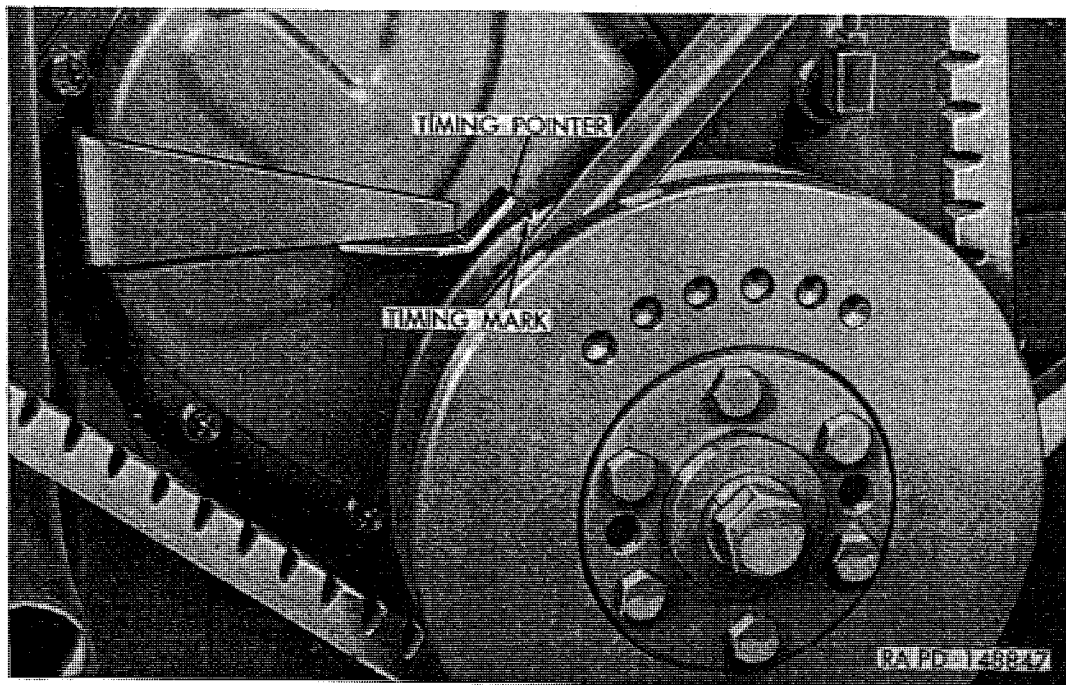
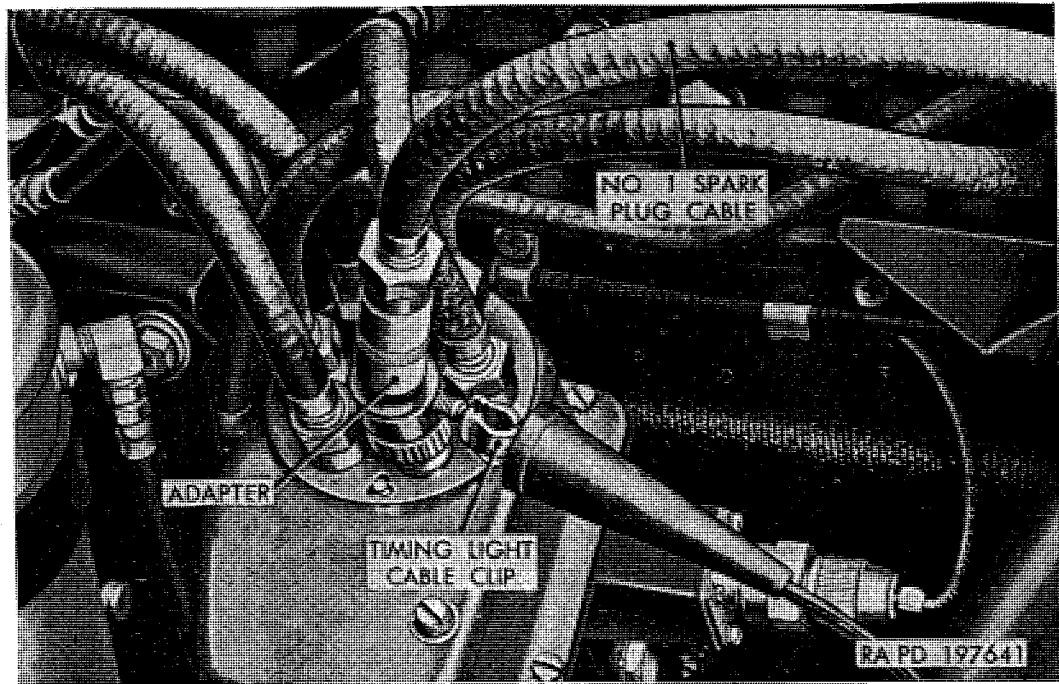
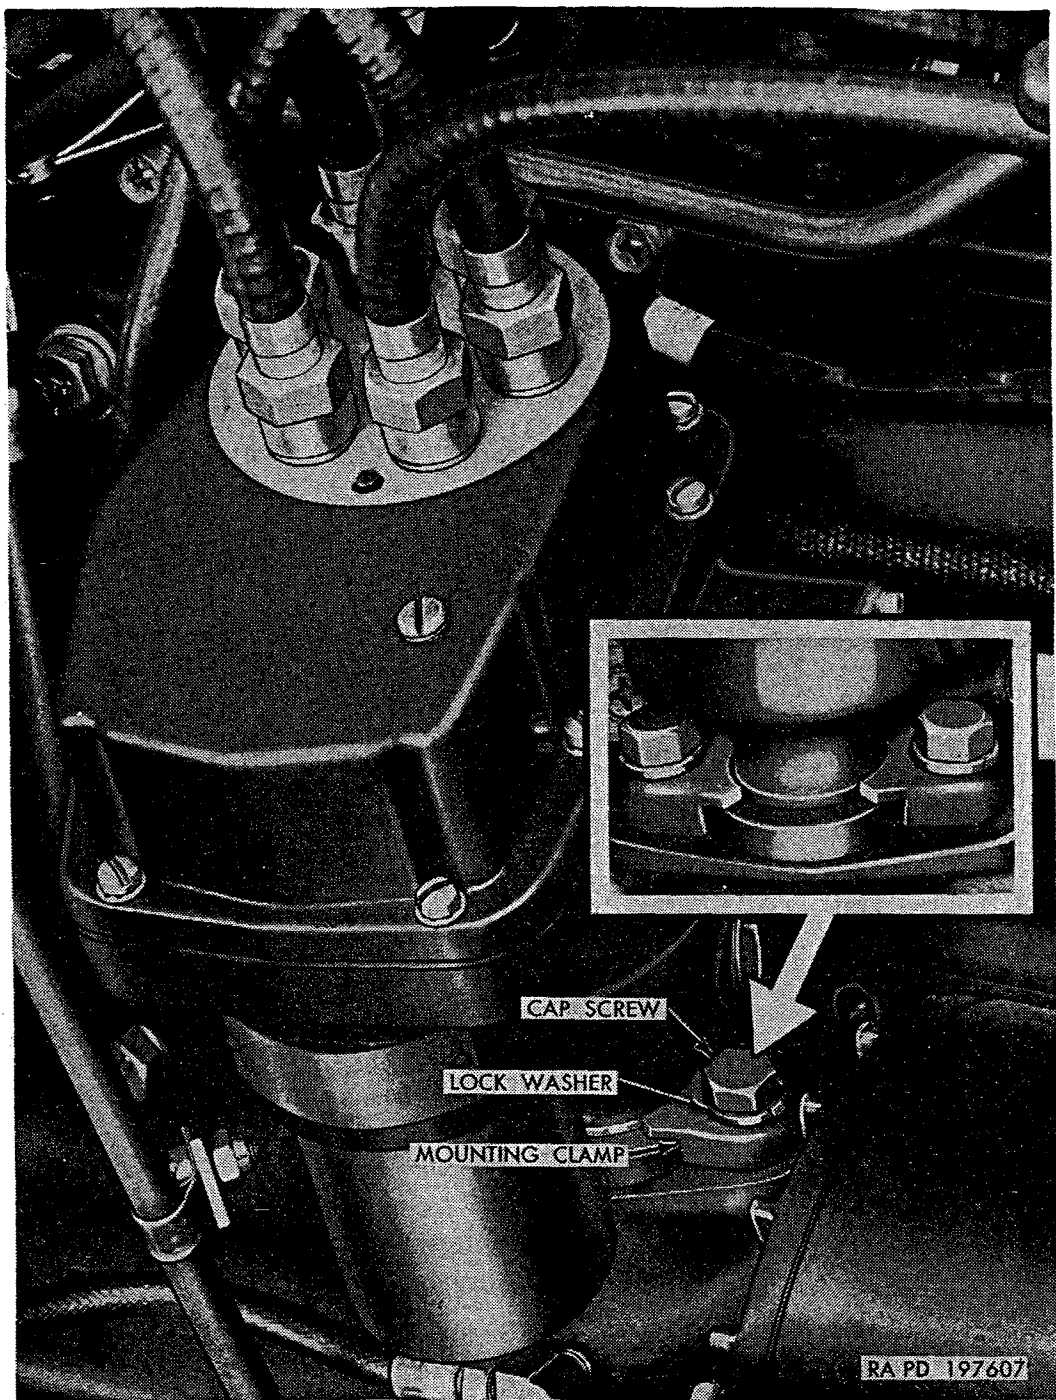
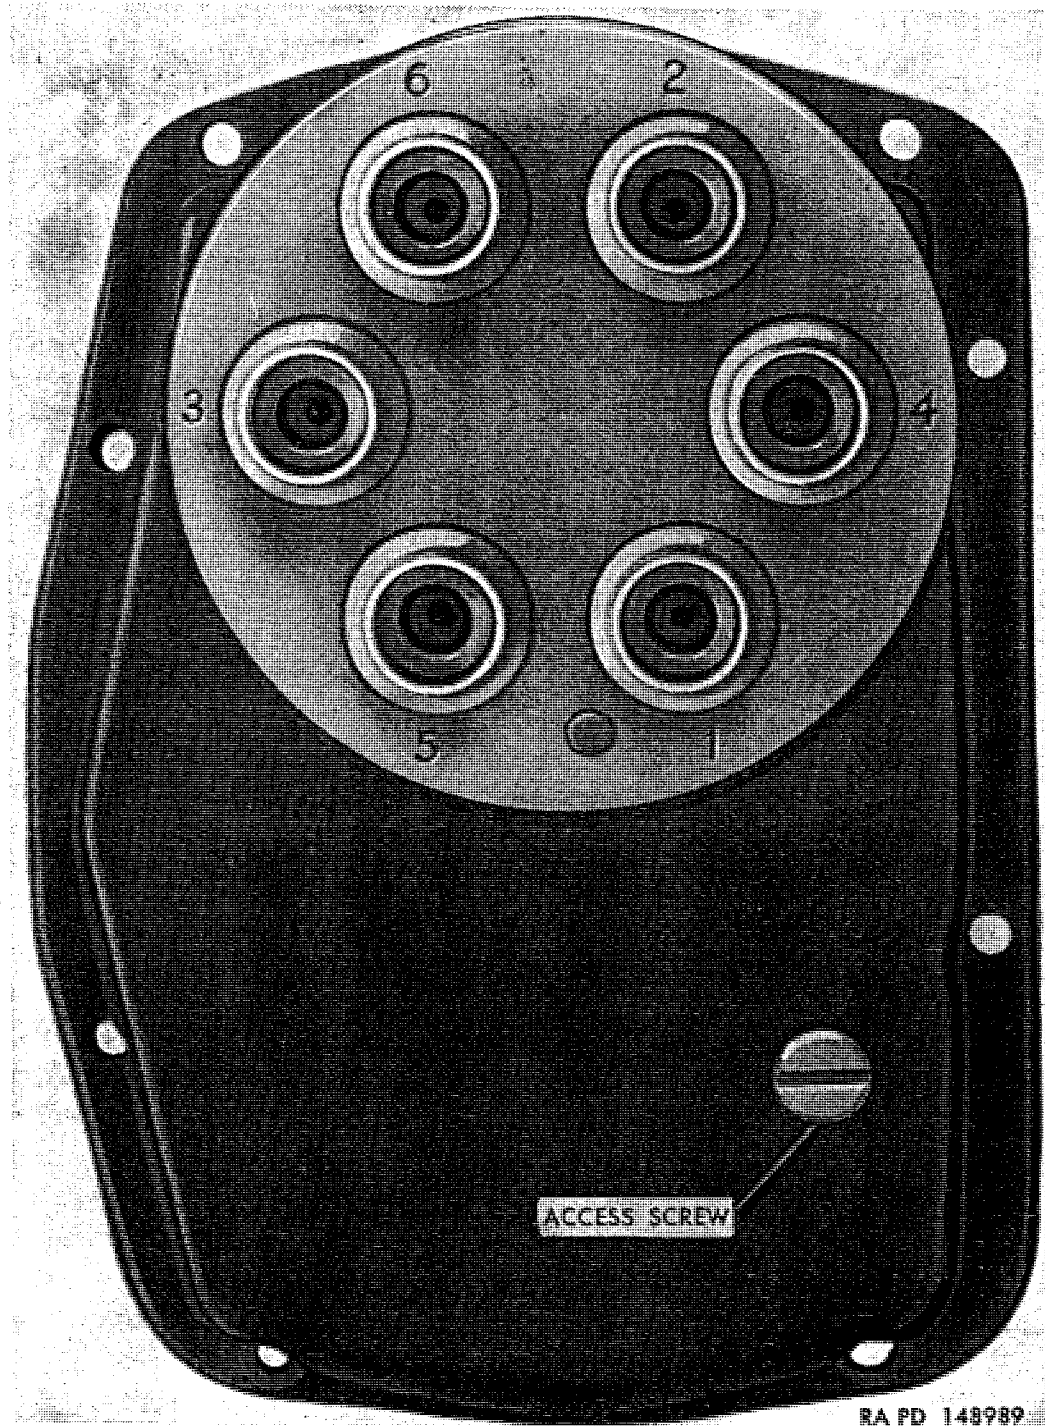

Figure 114. Ignition timing mark and pointer.
Figure 115. Timing light adapter installed.
Figure 116. Distributor mounting.
Figure 120. Top view of distributor cover showing firing sequence dial.
a. General. Timing the ignition system comprises initial timing; setting the distributor mechanism to cause opening of points at correct firing intervals, and manual advance adjustment; and retarding or advancing the point opening to compensate for various grades of fuel which may be used. These timing factors require checking and adjusting at engine tuneup periods, or when performance of engine necessitates such action. Ignition timing mark is a notch on crankshaft pulley as shown in figure 114. Timing pointer is attached to engine timing gear cover. Due to the sealed design of the ignition system, an adapter is required for connecting timing light (fig. 115).
- (1) Note location of No. 1 spark plug cable in distributor cover and scribe a mark on distributor housing at this point.
- (2) Remove eight screws attaching cover to housing. Remove cover and gasket. Clean and adjust or replace distributor points if necessary (par. 123a or b).
- (3) Make sure distributor is properly installed as follows: do not turn ignition switch on. Slowly turn engine over by intermittently operating starter until timing mark (notch on crankshaft pulley) is alined with timing pointer (fig. 114) on timing gear cover. If rotor segment points toward mark indicating No. 1 spark plug cable location, proceed with (4) below. If rotor points toward No. 6 spark plug cable location, turn engine over one complete revolution until timing mark and pointer are alined and again check position of rotor segment. If rotor segment does not point toward No. 1 spark plug cable location, distributor is improperly installed. Remove distributor and install in correct position (par. 123d and e).
- (4) Install distributor cover, making sure gasket is in place and in good condition. Tighten cover attaching screws.
- (5) Disconnect No. 1 spark plug cable from distributor cover, using crowfoot wrench C7950895 (fig. 76). Thread adapter onto distributor cover; then connect No. 1 spark plug cable to adapter (fig. 115).
- (6) Connect one terminal of timing light to adapter (fig. 115) and connect other terminal to a convenient ground.
- (7) Start engine and run at a slow idle. Direct beam of timing light toward upper edge of timing pointer (fig. 114) on timing gear cover. Timing light flashes make timing mark on crankshaft pulley appear stationary. Loosen distributor clamp cap screws (fig. 116) and turn distributor housing clockwise or counterclockwise as necessary to synchronize flashes with timing mark when it is aligned with upper edge of pointer. Tighten distributor clamp cap screws.
- (1) After engine has been thoroughly warmed up, drive the vehicle, using grade of fuel expected to be used in service. Engine should not ping or knock excessively under load and full throttle.
- (2) A slight amount of ping is not objectionable. If knock is excessive, loosen distributor clamp cap screws (fig. 116) and turn distributor housing clockwise slightly until knock is minimized. Tighten distributor clamp cap screws.
- (3) Turn engine over by intermittently operating starter until notch on crankshaft pulley is alined with pointer (fig. 114) and rotor segment is pointing toward mark on housing indicating No. 1 spark plug cable location.
- (4) Disconnect air vent and vacuum lines from fittings at rear side of distributor housing. Remove two distributor clamp cap screws (fig. 116) and clamps attaching distributor housing to cylinder block.
- (5) Carefully lift distributor straight up out of cylinder block, observing that rotor turns clockwise a few degrees as gears disengage; mark this position of rotor on distributor housing.
- (1) If engine has not been turned over since removal, proceed as in (a) and (b) below.
- (2) If engine has been turned over since distributor removal, remove cylinder head cover from engine (par. 113b). Turn engine over by intermittently operating starter and observe movement of No. 1 intake valve (second valve from front). When No. 1 intake valve starts to close (raise up), continue to turn engine slowly until notch on crankshaft pulley is alined with pointer (fig. 114). Engine is then in No. 1 firing position and distributor may be inserted as directed in (1) above.
- (3) Install two mounting clamps, $\frac{3}{8}$ -16 x 1 cap screws, and $\frac{3}{8}$ -inch lockwashers (fig. 116) securing distributor to cylin-
- (4) Check and adjust point opening (*a* above).
- (5) Install distributor cover, making sure gasket is in place and in good condition. Connect spark plug cables to distributor cover, making sure they are connected to provide correct firing order (1-5-3-6-2-4, fig. 120).
- (6) Check ignition timing and adjust if necessary (par. 122).